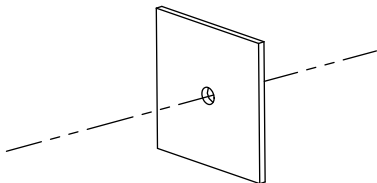

Figure 2-20 Drill on the Surface
1. Drill on the mounting surface, as shown in Figure 2-20.